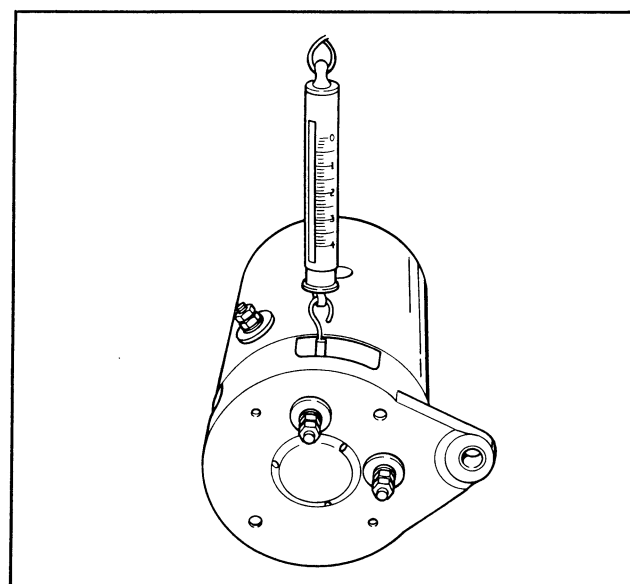

Figure 101 – Test Brush Spring Tension
- b. Test brush spring tension. Use a scale, Figure 101, to test spring tension. Reject springs which apply a force less than 28 ± 4 oz. (680.4 grams).